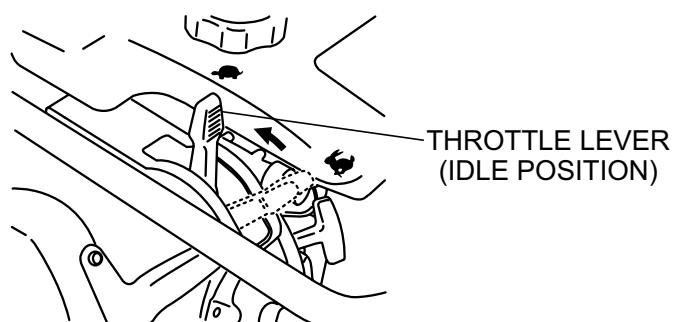
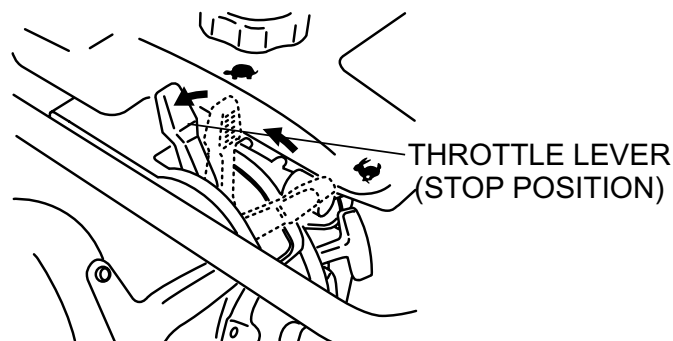

Figure 11. Throttle Lever (Stop Position)
Figure 12. Throttle Lever (Stop Position)
3. To stop the tamping action, move throttle lever quickly from **START** to **IDLE** position (Figure 11).
1. Move throttle lever quickly from the **START** to **IDLE** position (Figure 11) and run the engine for three minutes at low speed. After the engine **cools**, move the throttle lever to the **STOP** position (Figure 12). The engine will stop and the fuel cock is automatically closed.